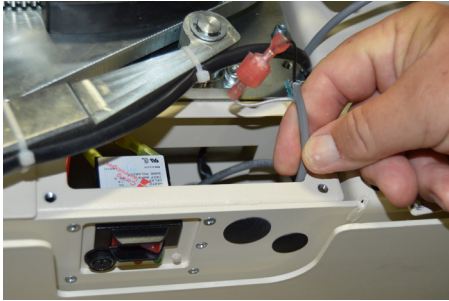

Figure 3-15
4. To use install switch, press the emergency safety switch in, if you do not have that option, separate the male female connector. After using the install switch, release the safety or put the wires back together. *See Figure 3-15.*